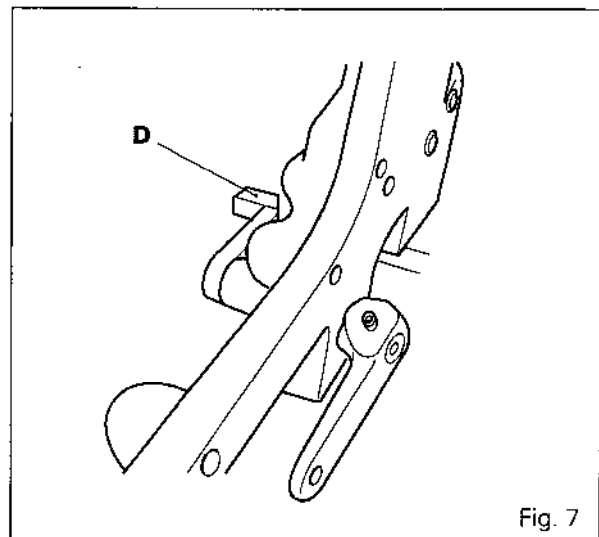

Fig. 7
25. Check that the control finger 'D' is in the forward direction (for gearbox with creeper gears) (Fig. 7).